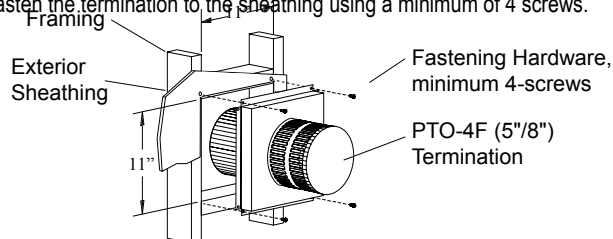

Figure 7. Installing a PTO4-F termination.
- The Vertical termination must be a minimum 2' higher than where the termination exits the roofing materials, (asphalt shingles, cedar shakes, etc). This distance should be measured from the high side of the roof slope where the flue flashing intersects the roofing materials. (see **Figures 7 to 7b**).